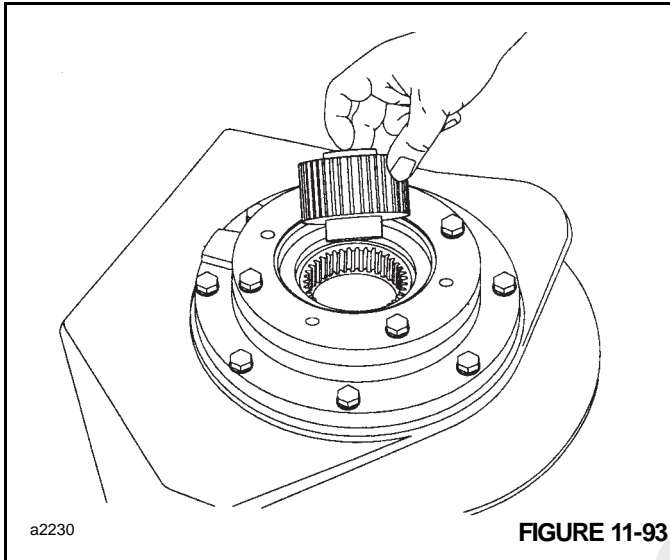

FIGURE 11-93
13. Install the brake clutch assembly (Figure 11-93) with the short end of the inner race toward motor.